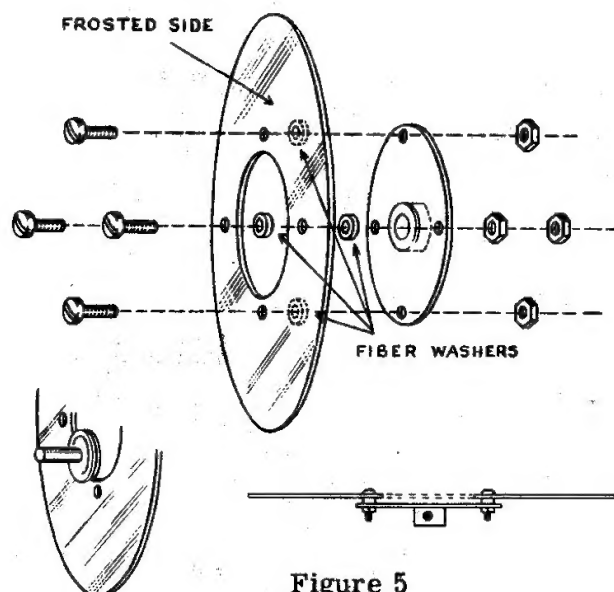

Figure 5
- ! (✓) Assemble the tuning dial as shown in Figure 5, using the four semi-flathead 3-48 screws.
X (✓) By tilting panel slightly forward after it is slid over the two switch shafts, and at the same time holding the friction drive shaft toward the rear, it will be possible to make the split washers of the friction drive wheels engage the plastic dial disk. See Figure 5. If the dial was placed too far from the chassis originally, it may be necessary to move it back slightly.